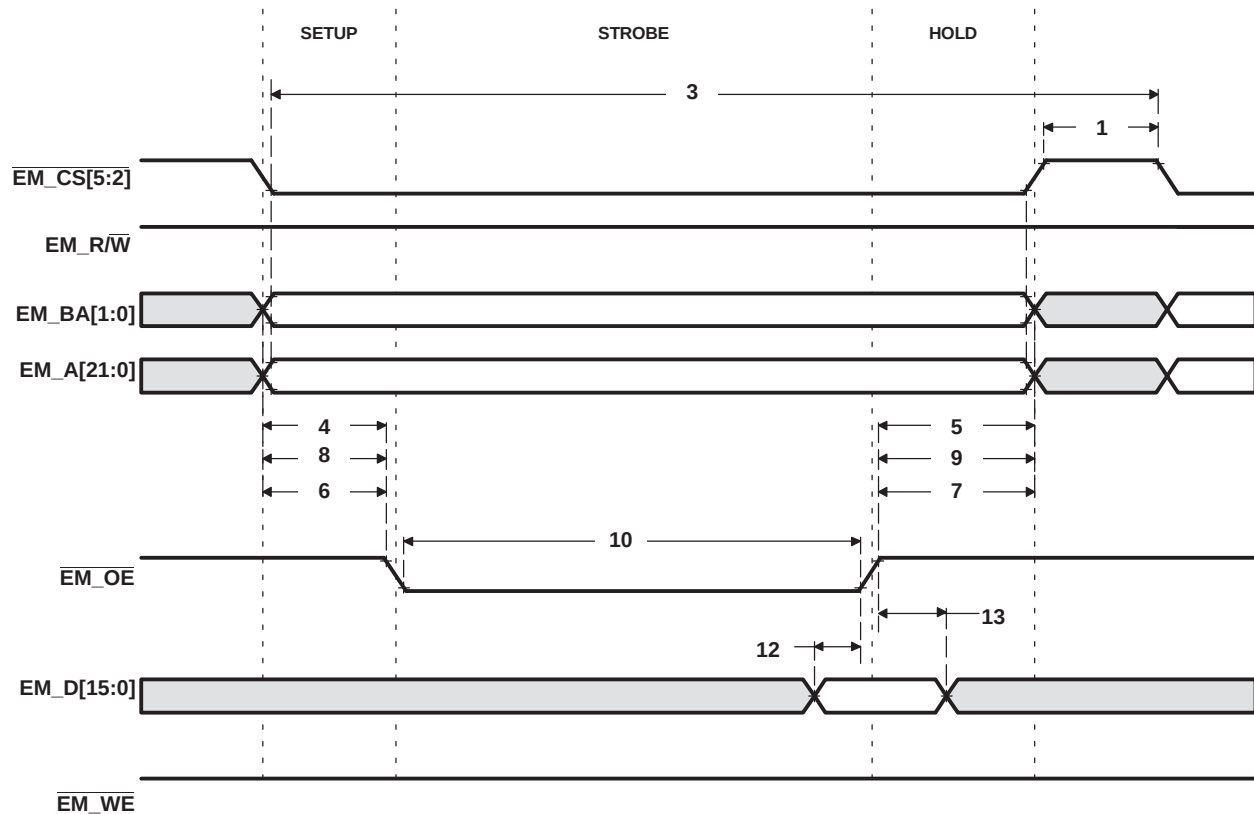
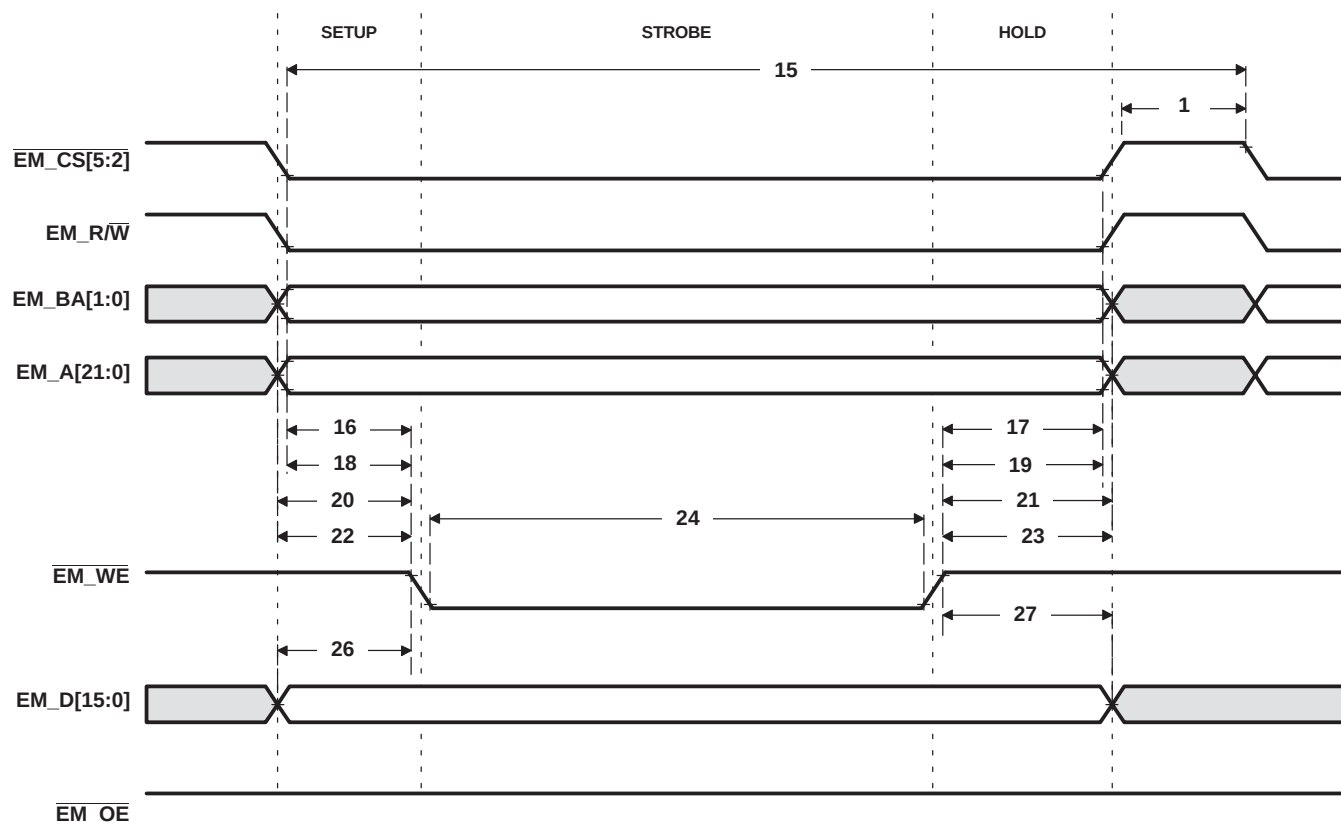

**Figure 6-21. Asynchronous Memory Read Timing for EMIFA**
Figure 6-22. Asynchronous Memory Write Timing for EMIF
(see Figure 6-21 and Figure 6-22)
**Table 6-35. Switching Characteristics Over Recommended Operating Conditions for Asynchronous Memory Cycles for EMIFA Module(1) (2) (see Figure 6-21 and Figure 6-22)**
(1) RS = Read setup, RST = Read STrobe, RH = Read Hold, WS = Write Setup, WST = Write STrobe, WH = Write Hold, TA = Turn Around, EW = Extend Wait mode, SS = Select Strobe mode. These parameters are programmed via the Asynchronous Bank and Asynchronous Wait Cycle Configuration Registers and support the following range of values: TA[3:0], RS[15:0], RST[63:0], RH[7:0], WS[15:0], WST[63:0], WH[7:0], and EW[255:0]. For more information, see the *TMS320DM644x DMSoc Asynchronous External Memory Interface (EMIF) Reference Guide* (literature number SPRUE20).
(2) E = SYSCLK5 period in ns for EMIFA. For example, when running the DSP CPU at 594 MHz, use E = 10.1 ns. For example, when running the DSP CPU at 810 MHz, use E = 7.4 ns.
**Table 6-35. Switching Characteristics Over Recommended Operating Conditions for Asynchronous Memory Cycles for EMIFA Module (see Figure 6-21 and Figure 6-22) (continued)**